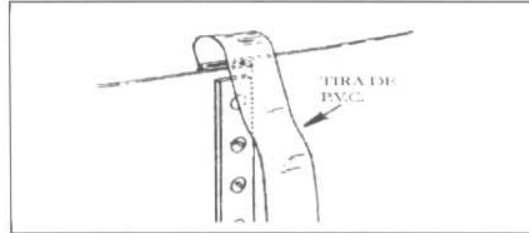

Fig. 6
- g) Using a strip of PVC, cover the bolt heads on the inside of the pool wall to protect the liner from rubbing against objects, which is the main cause of tears in the liner (fig. 6). Stick the strip with glue for PVC. Ensure the screws are completely covered.